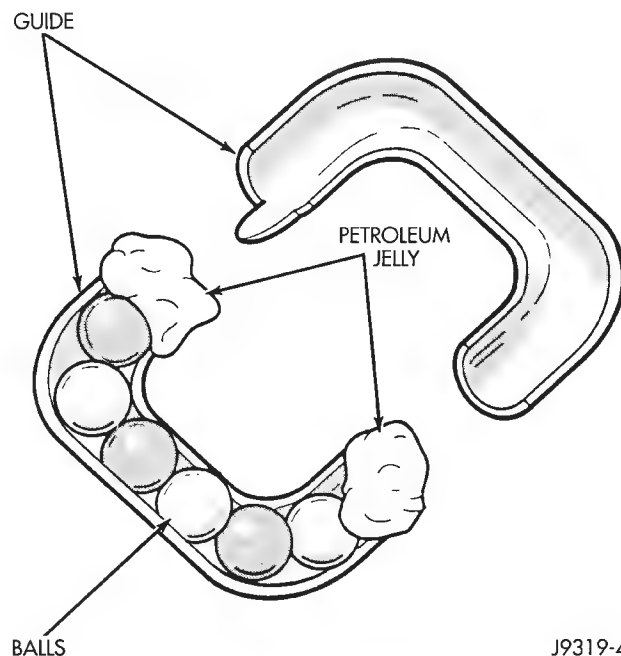

Fig. 34 Balls in the Return Guide
- (3) Lubricate and install rack piston balls through return guide hole while turning wormshaft COUNTERCLOCKWISE.
- (4) Install remaining balls to guide using grease or petroleum jelly at each end to hold in place (Fig. 34).
- (5) Install guide onto rack piston and return with